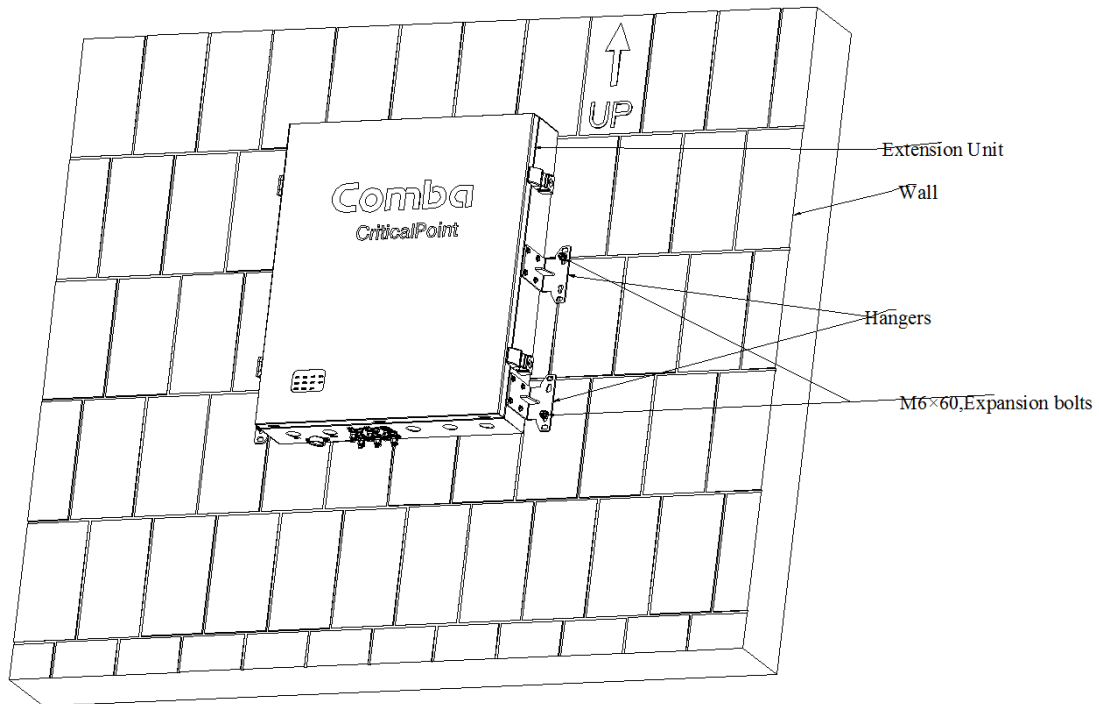

Figure 18: Expansion Unit Wall Mounting
- Remove the nut and washer of "M6 \times 60, expansion bolt", insert the bolt and sleeve into the hole of the wall [the threaded end faces outward]; then hang the device on the bolt, and then pad it Use a wrench to tighten the screws for flat pads and spring pads, as shown in Figure 18;